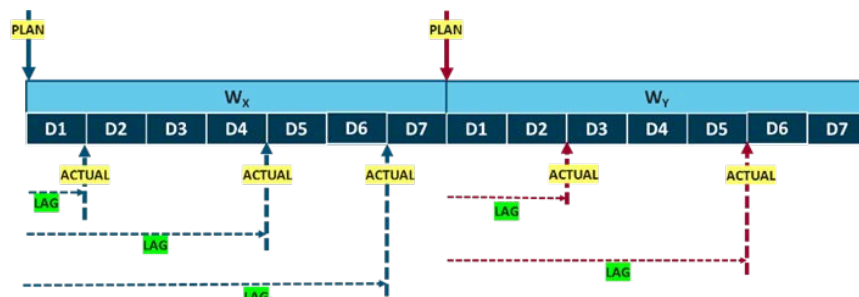

Figure 8: Time Lag of Events
As Figure 8 demonstrates, the planned quantity is a purchase requisition (PR) placed on the supplier. Actuals are those supplies that are finally accounted for as inventories in the system. But there will always be deviations in what is planned to be available and what is actually available, resulting in a time lag in the expected events. These deviations need to be analyzed and accounted for in the future planning cycles in order to be able to bridge the gap between plan versus actuals. The data to perform this analysis is generally readily available in the planning systems, but it must be harnessed appropriately.